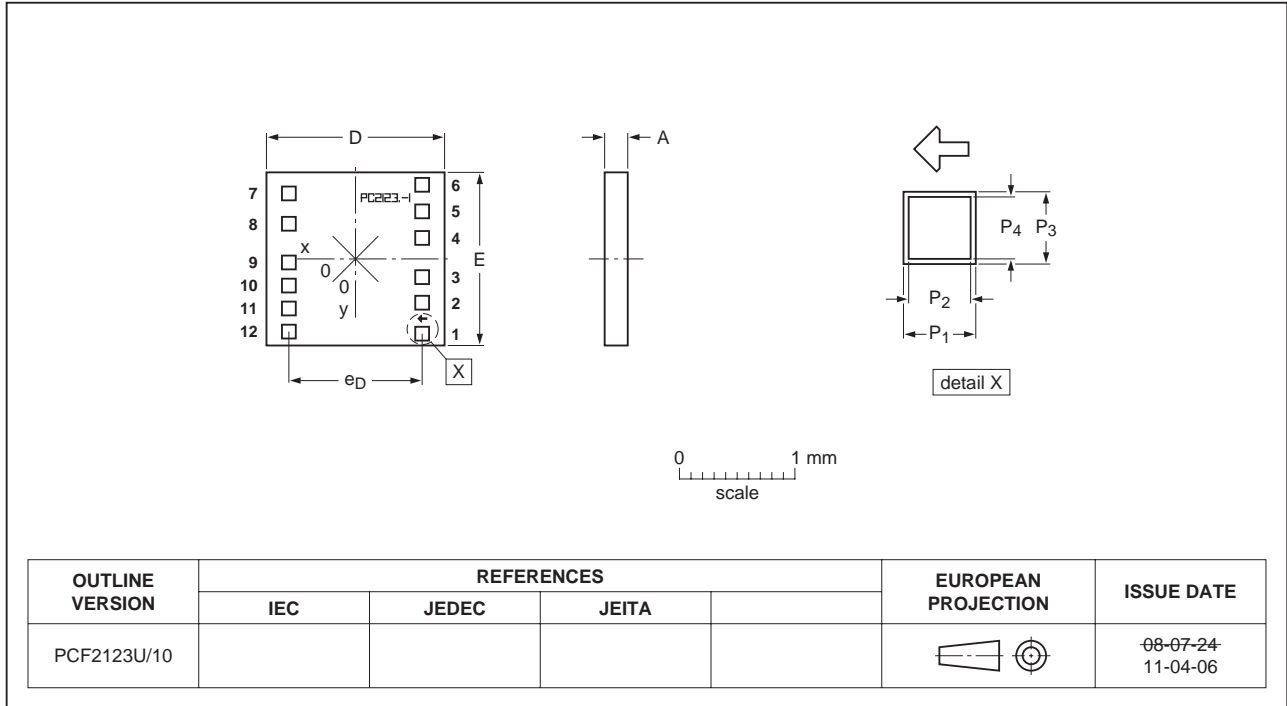
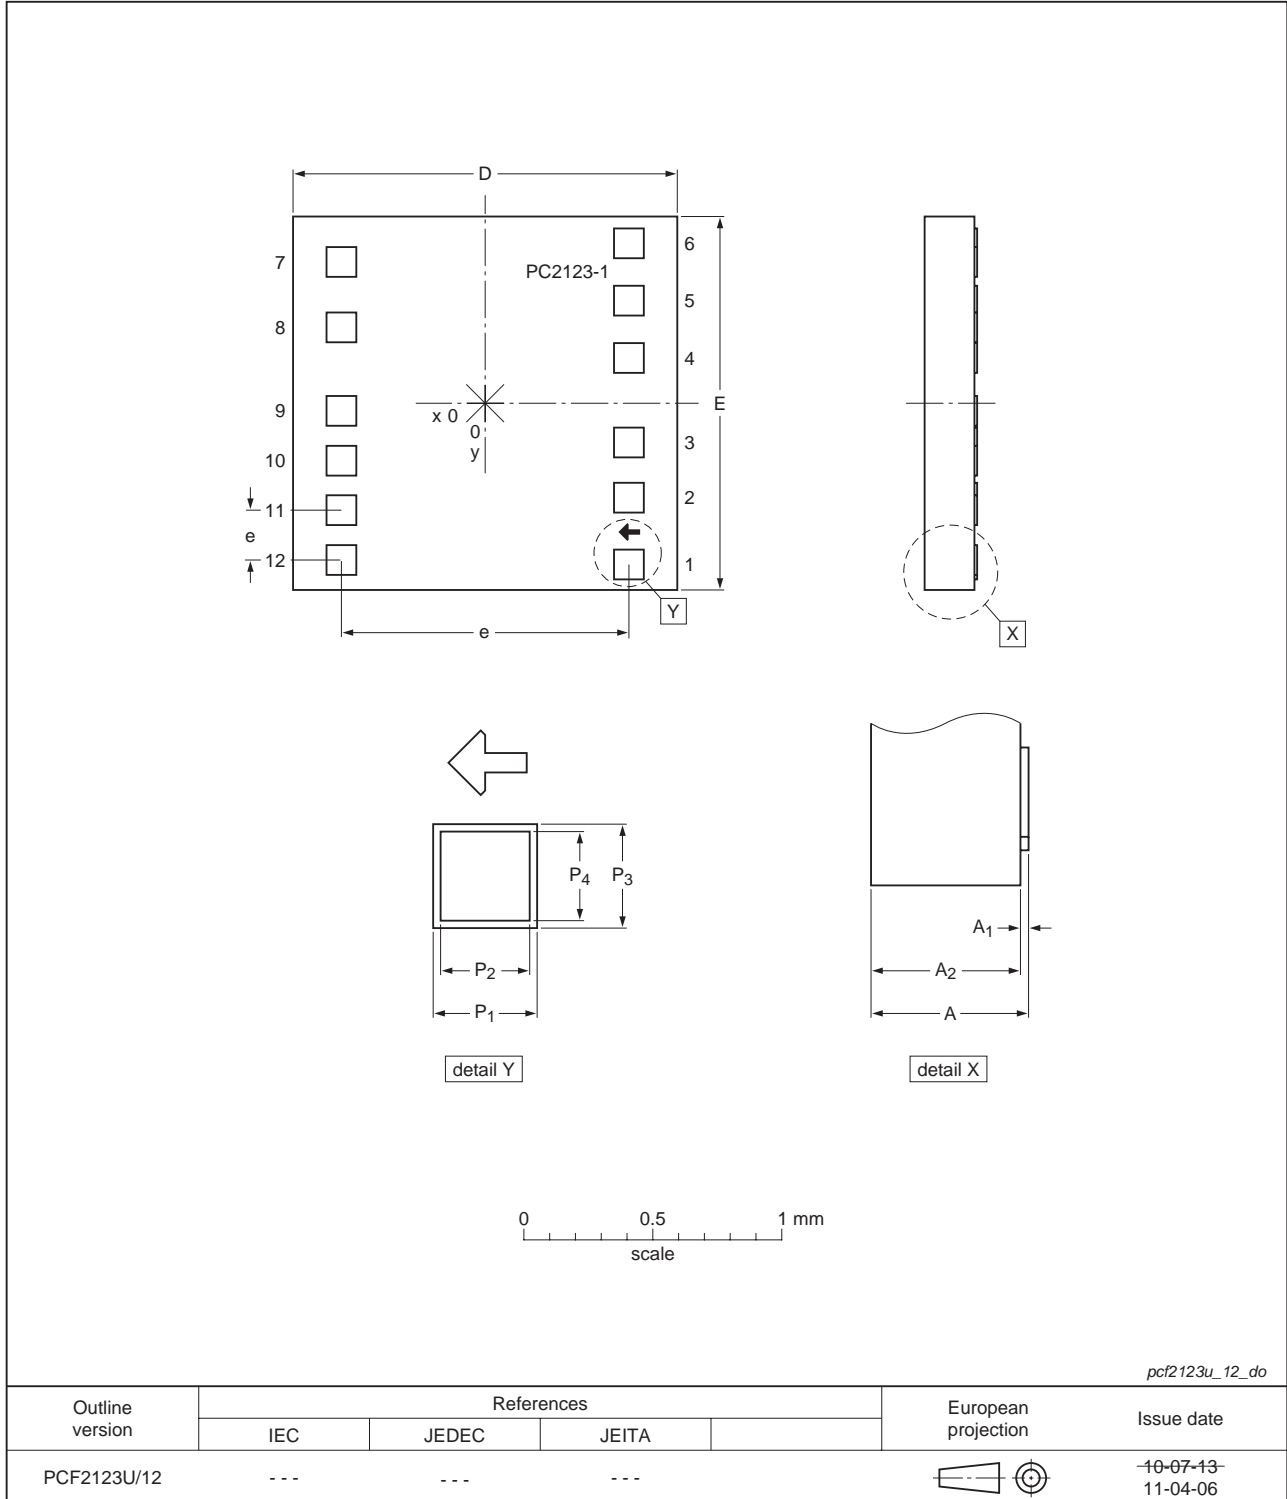
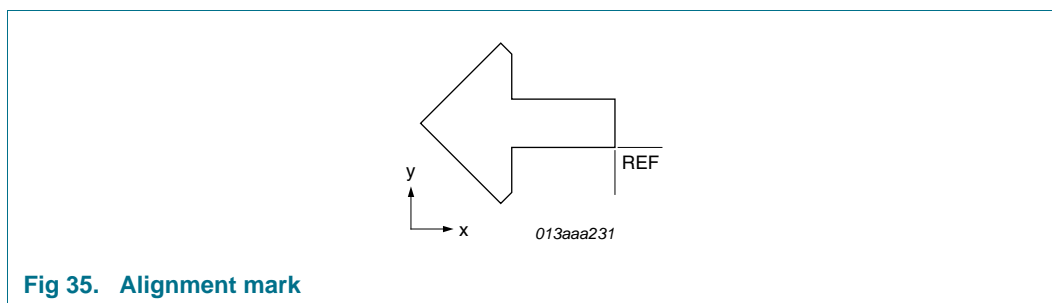

Fig 33. Bare die outline PCF2123U/10 of PCF2123U/5GA/1 and PCF2123U/10AA/1 (for dimensions see Table 46)
Fig 34. Bare die outline PCF2123U/12 of PCF2123U/12AA/1 and PCF2123U/12HA/1 (for dimensions see Table 47)
Fig 35. Alignment mark
All x/y coordinates represent the position of the center of each pad with respect to the center (x/y = 0) of the chip; see Figure 33 and Figure 34.
- [1] The x/y coordinates of the alignment mark location represent the position of the REF point (see Figure 35) with respect to the center (x/y = 0) of the chip; see Figure 33 and Figure 34.
- [2] The x/y values of the dimensions represent the extensions of the alignment mark in direction of the coordinate axis (see Figure 35).